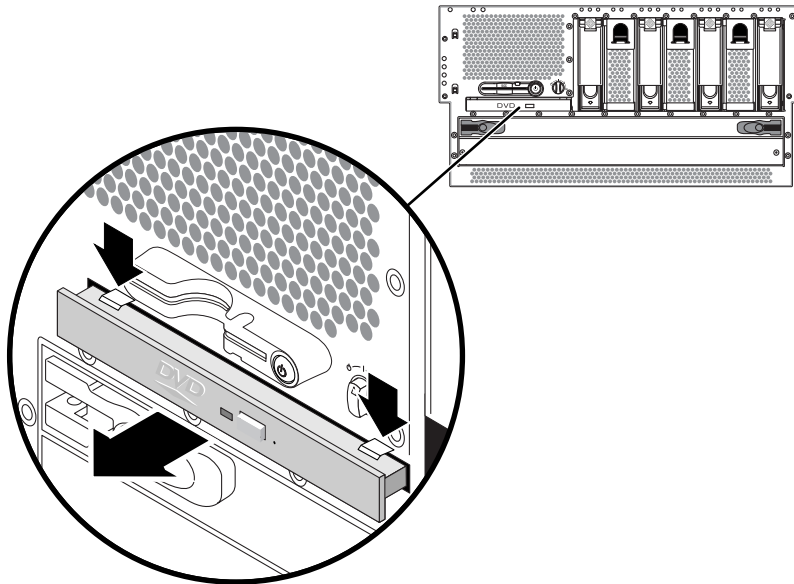

FIGURE 4-1 Removing a DVD Drive
4. **Press down on the two DVD drive locking tabs, releasing the DVD drive from its cage (FIGURE 4-1).**